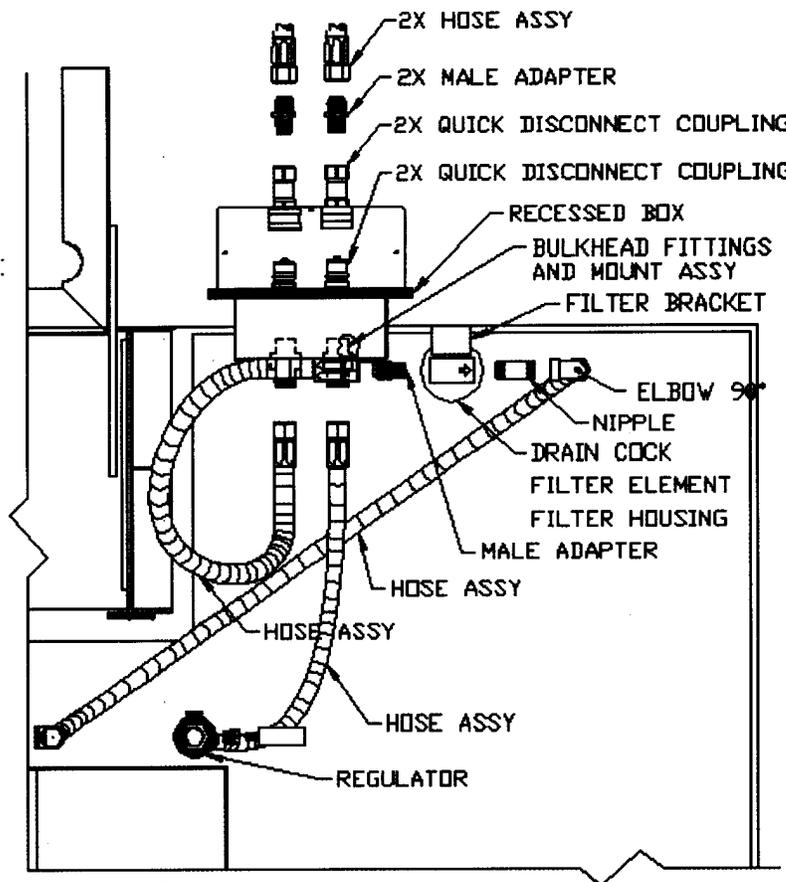

Figure 8. Quick Disconnect Coupling, Bulkhead Fittings and Mount Assembly. Water Filter Installation
39. Repeat the above procedure to the other female quick disconnect coupling. See Figure 8.